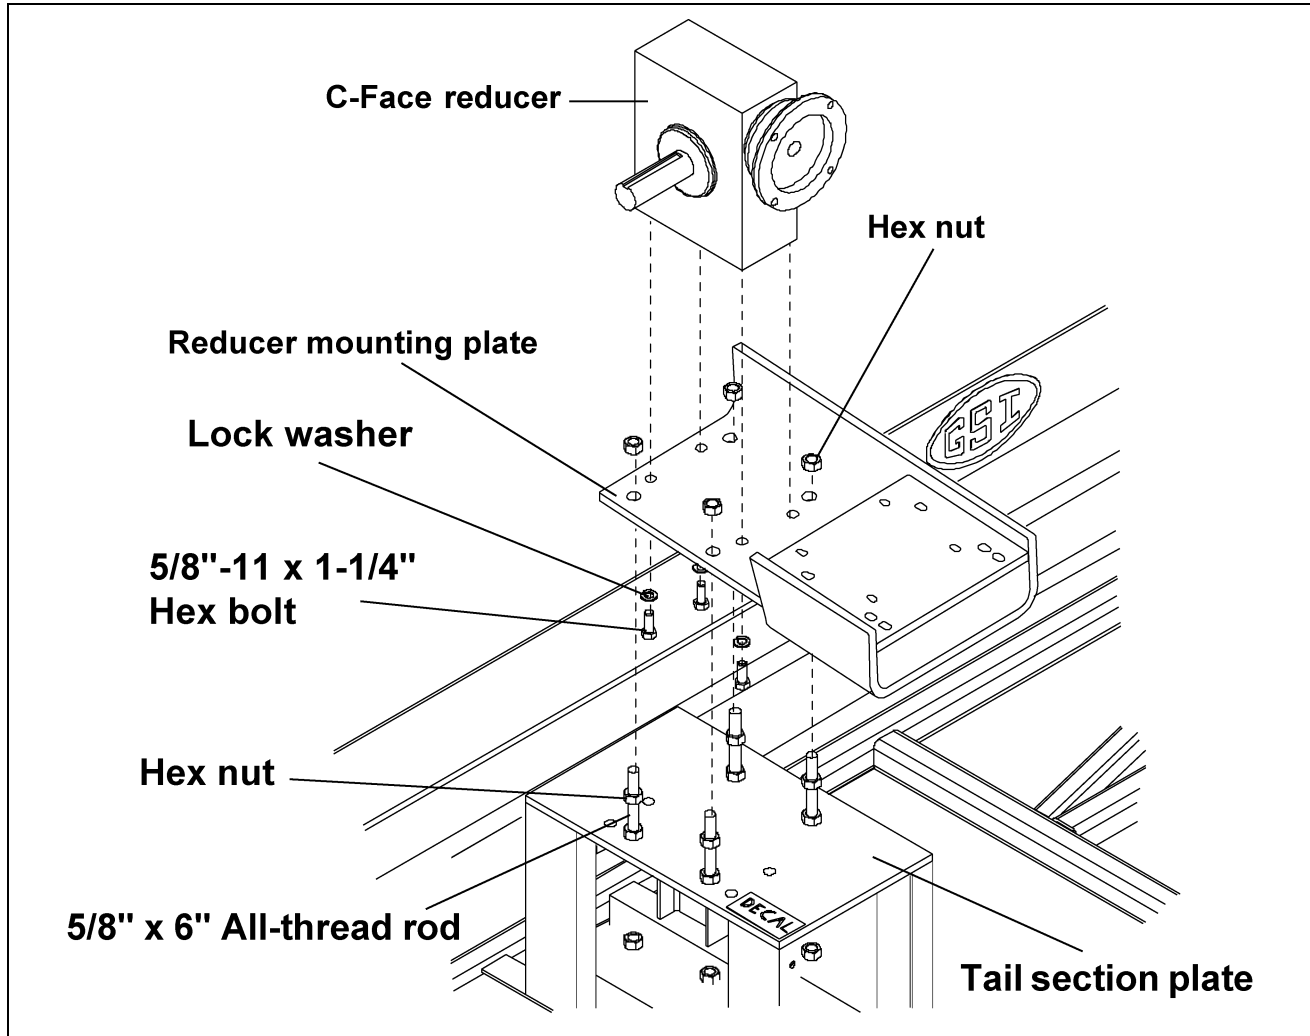

Figure 5M
- A. Attach the C-face reducer to the mounting plate using four (4) 5/8"-11 x 1-1/4" hex bolts and lock washers. (See Figure 5M.)
- B. Fasten the reducer mounting plate to the tail section plate using four (4) 5/8"-11 x 6" all-thread rods and sixteen (16) hex nuts. Adjust the mounting plate as close as possible to the tail section plate.